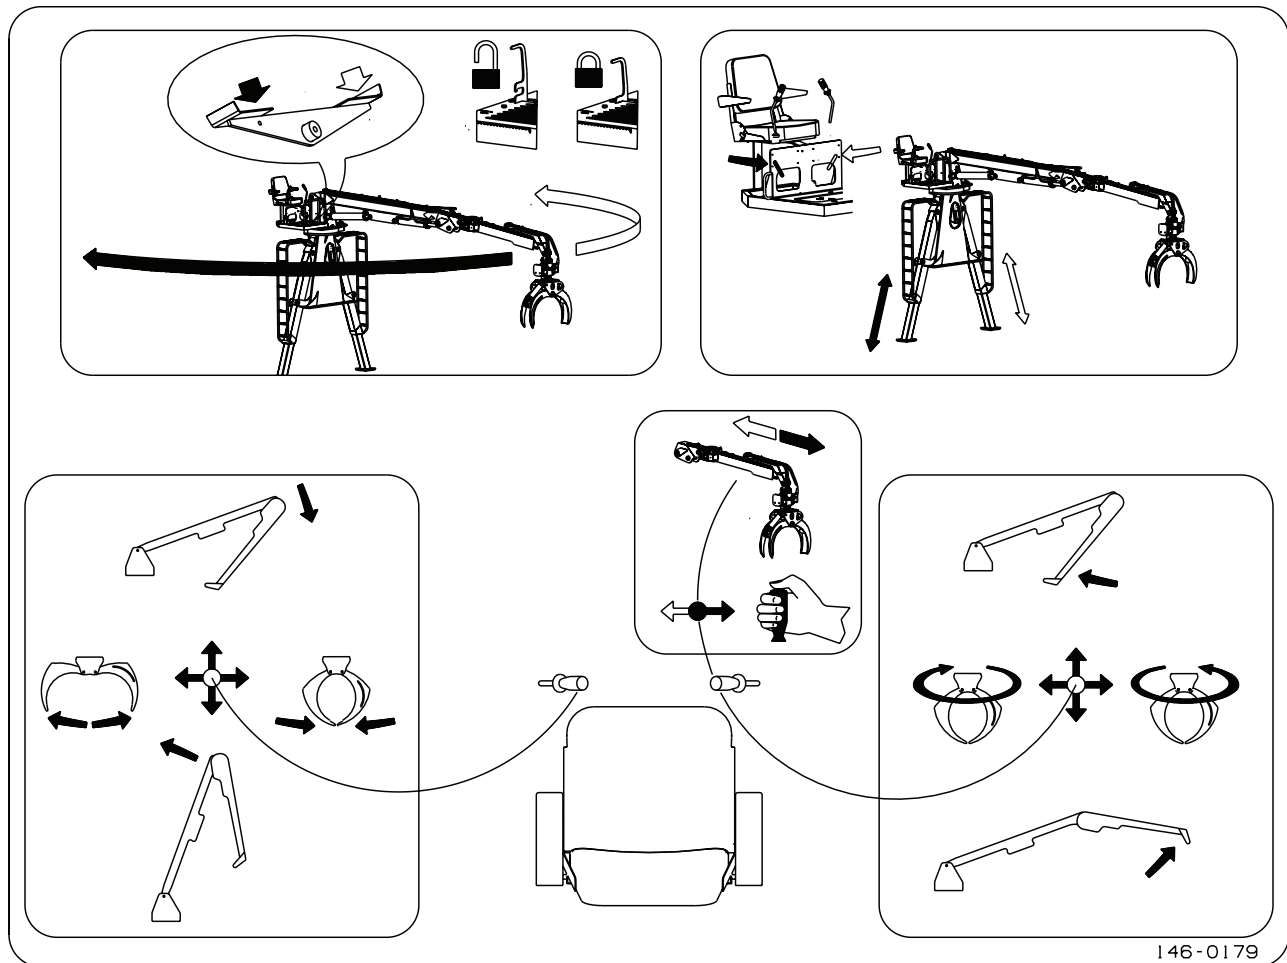

Figure 11 - Standard view of loader controls
5. Lift the boom from its resting or transportation position by pulling the **left** joystick **back** towards the seat (see *Figure 11 on page 53*).
DANGER! The hydraulic hoses for the booms and grapple must be connected to the joysticks to produce the operating sequences displayed in *Figure 11*. Altering the sequence (for example, switching the hoses of the stick boom with the hoses of the main boom) can cause confusion about operations.